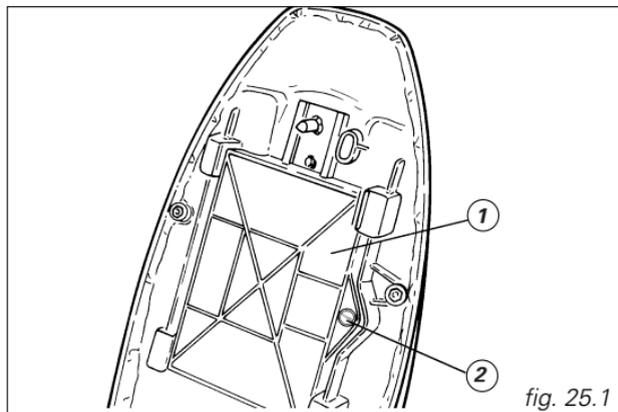

fig. 25.1
**Tool kit and accessories** (fig. 25.1)